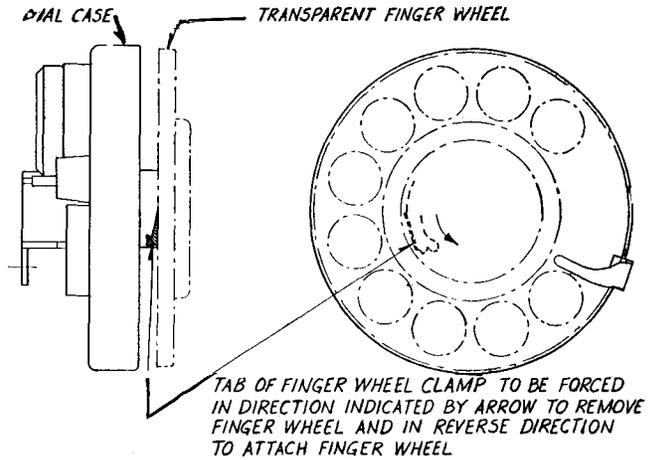

Fig. 10—Tab of Finger-Wheel Clamp
- (1) Hold finger wheel in stationary position.
- (2) Rotate finger-wheel clamp tab in counterclockwise direction, using a thin bladed tool. Refer to Fig. 10.
- (5) Assemble number card in accordance with instructions as covered in 13.02.
- (6) Place P-372629 finger wheel over finger-wheel clamp with the three legs of clamp seated in the corresponding notches of finger wheel and rotate finger-wheel clamp by exerting a slight upward pressure on its hub and move in a clockwise direction. A thin bladed tool may be used to operate the clamp. Refer to Fig. 10 and caution contained in 13.01.